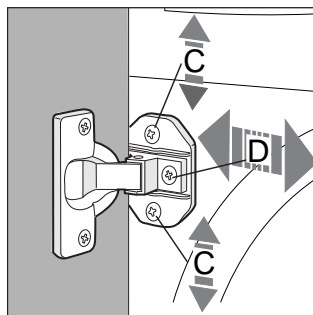

Fig. 7
- To adjust the position of the wooden panel in both the vertical and horizontal directions, use the C and D screws, as shown in fig. 7.